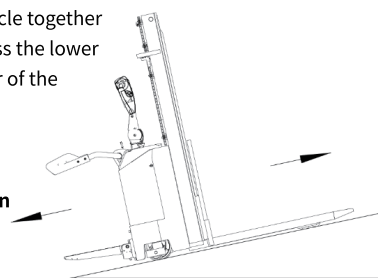

Figure 12: Load Facing Upward
- ⚠ **Only travel on slopes with the load facing upward as shown in Figure 12.**